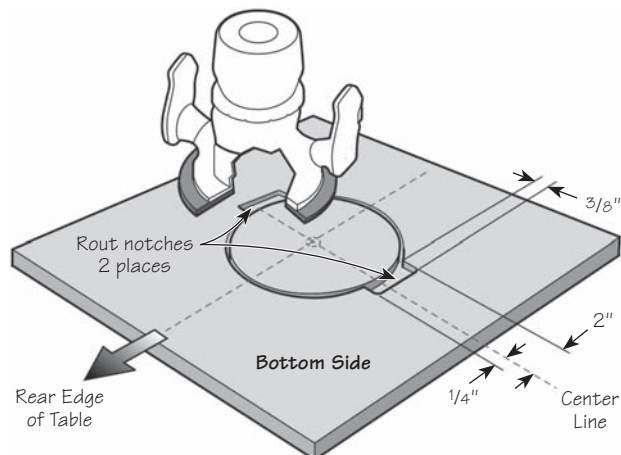

Figure 3: Notching the bottom side of the table top.
5. So the router base plate will be able to pass down through the hole in the table top, two notches must be cut through what will become the supporting ledge for the base plate. While the table top is still inverted, mark out both notch areas as shown in **Figure 3**. They should be located at two opposing points, extending $\frac{3}{8}$ " beyond the groove just routed and be 2" long, as shown in the diagram. With